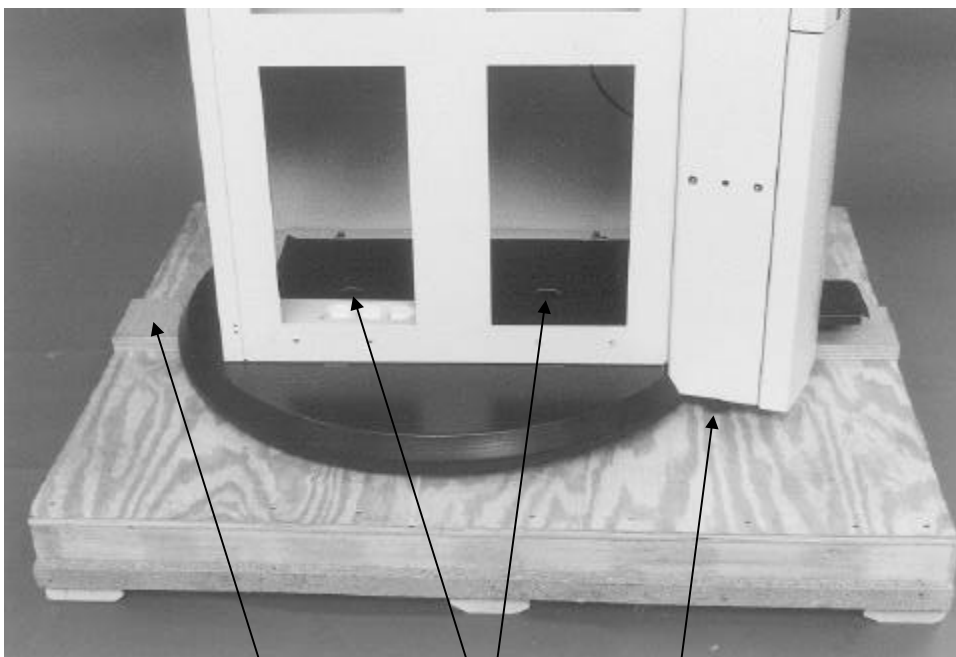

figure 1
- Remove the fastening bolts attaching the machine to the pallet (see figure 1, number 1).
- Turn the adjustable feet at the front of the machine(see figure 1, number 2) all the way up.